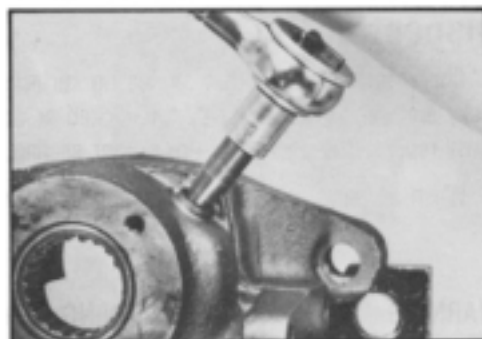

Figure 85
36. Remove bleed screw (55B) if the housing is so equipped. 5/16 inch socket required. SEE FIGURE 85.